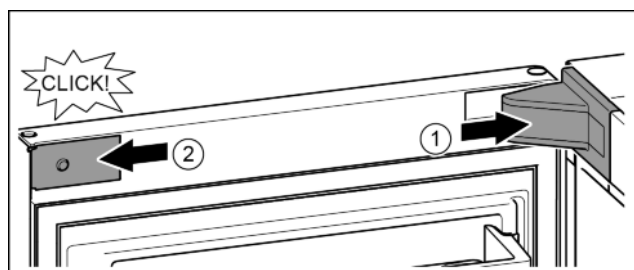

Fig. 18
- ▶ Position the bearing bracket and engage. If necessary push apart carefully. Fig. 18 (1)
- ▶ Position the panel on the side and click into place. Fig. 18 (2)